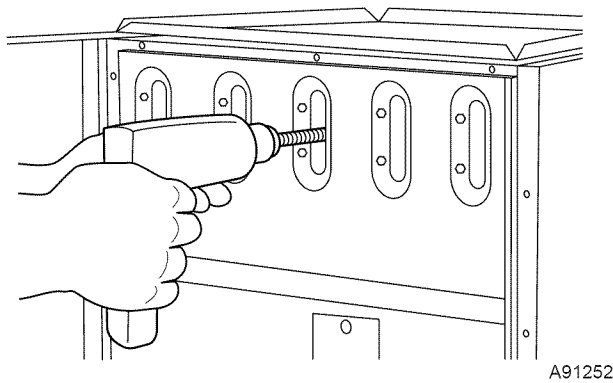

Fig. 52—Cleaning Heat Exchanger Cell
- (2.) Insert brush end of cable into the outlet opening of cell and slowly rotate with drill. DO NOT force cable. Gradually insert cable into upper pass of cell. (See Fig. 52.)